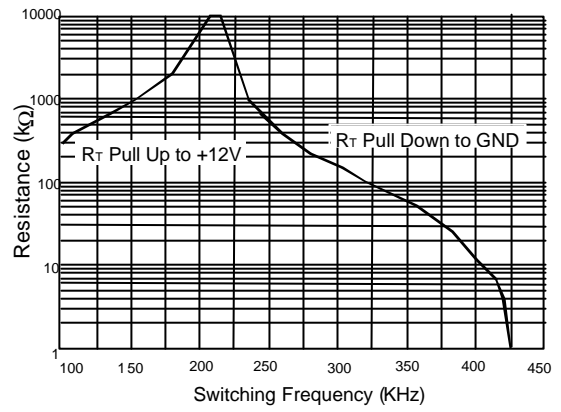

Fig. 3 RT Resistance VS. Frequency
Pin 10: RT: Frequency adjustment pin. Connecting a resistor (RT) from this pin to GND, increasing the frequency. Connecting a resistor (RT) from this pin to VCC, decreasing the frequency by the following figure (Fig.3).